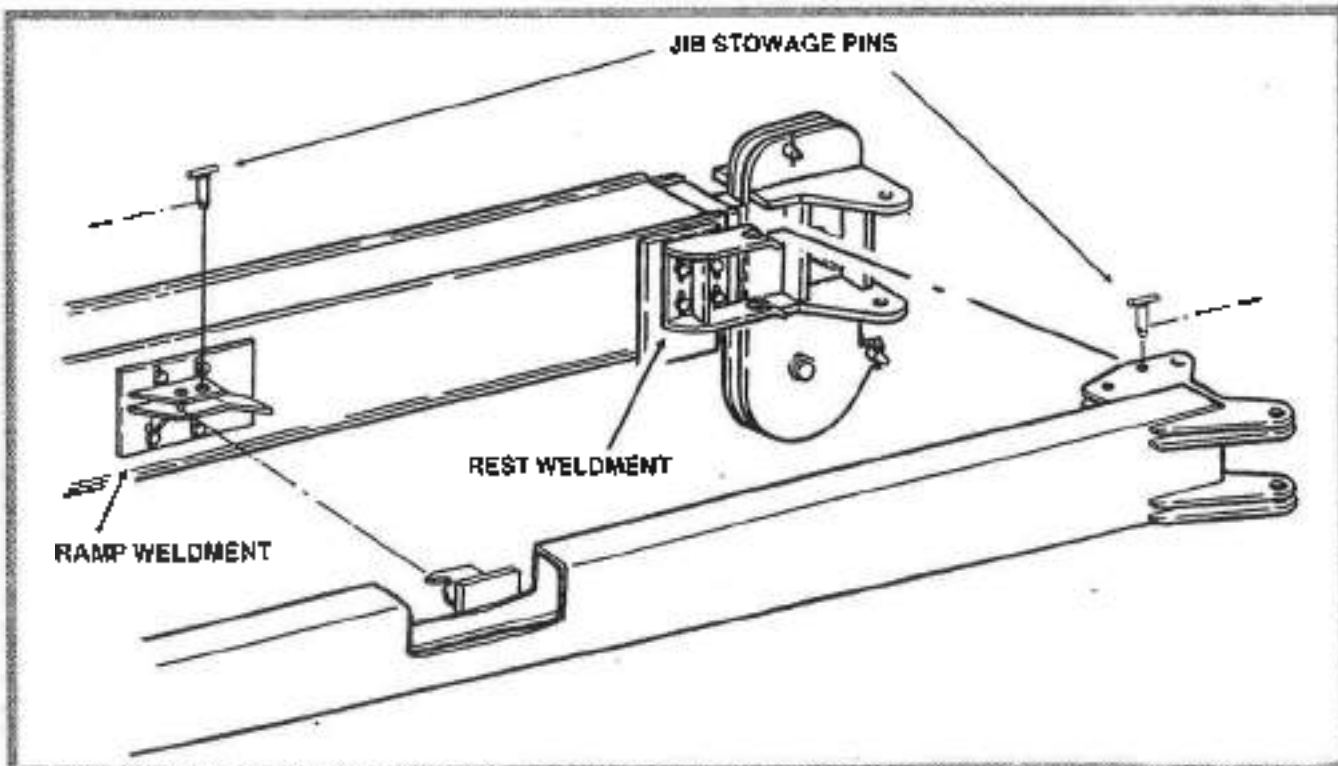

Figure 3-6. Jib Storage Pins.
- Remove the jib stowage pin, located on the ramp weldment of the jib, which secures the jib to the boom base section. (See Figure 3-6)